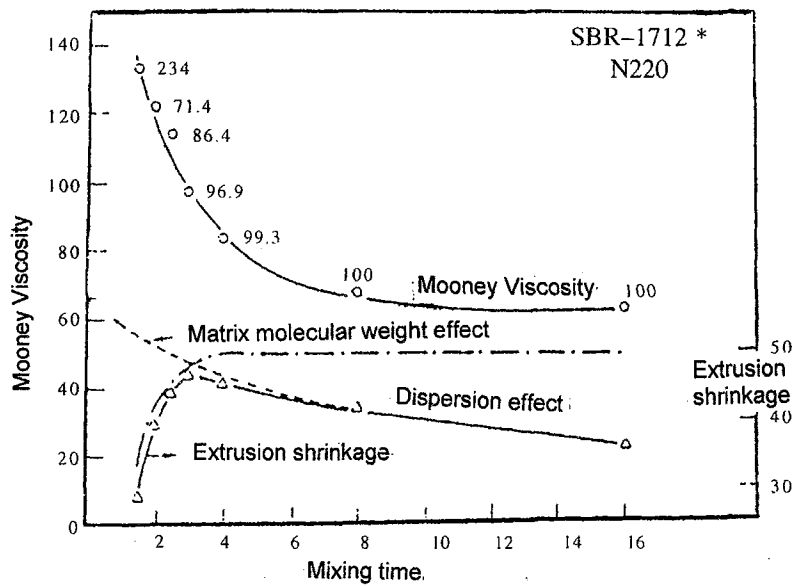

Figure 1 - Rheological Properties versus mixing time for SBR uncured compound (number refers to dispersion percentage of carbon black)
- [c] Figure 1 shows the rheological properties versus mixing time for uncured SBR compound. Explain the results obtained.